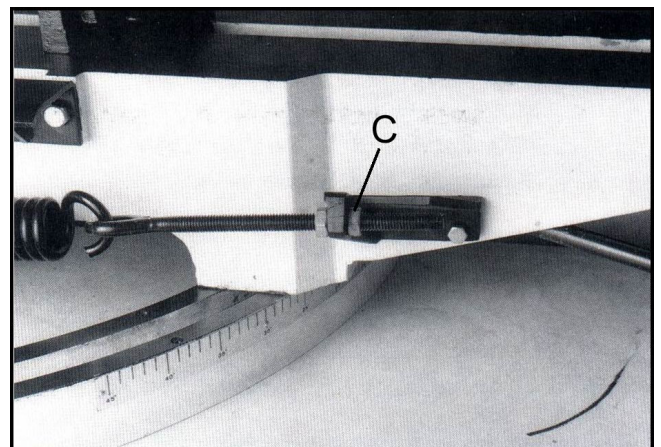

Fig. 11
5. Adjust tension to approximately 15 lbs. by turning the adjustable C-bolt found at the end of the coil spring on the rear of the bandsaw. See figure 11.